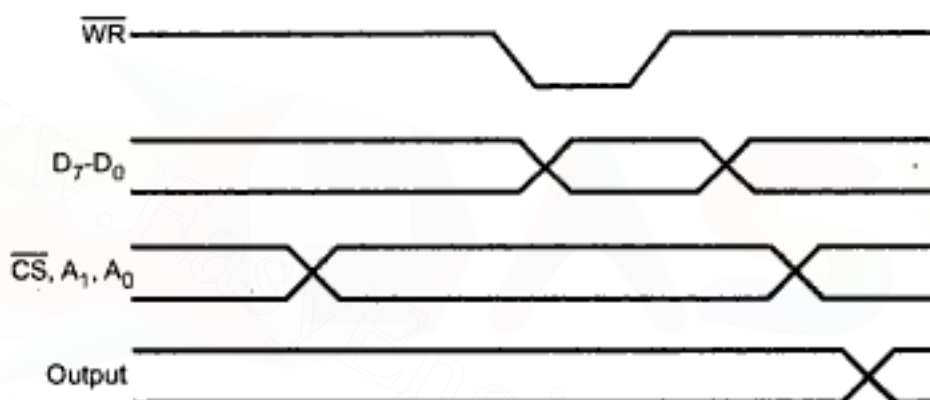

Fig. 12.7 Timing diagram for mode 0 output mode
**Output Mode :** Fig. 12.7 shows the timing diagram for mode 0 output mode.